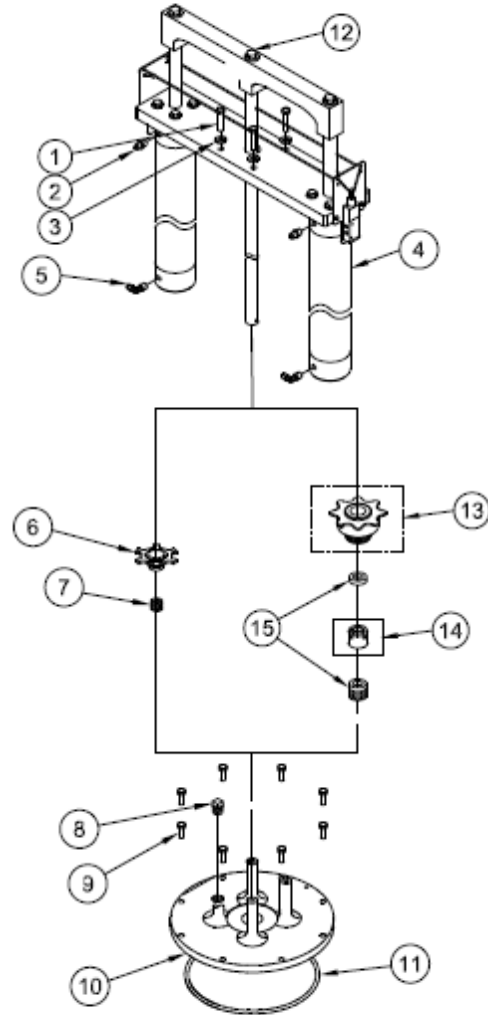
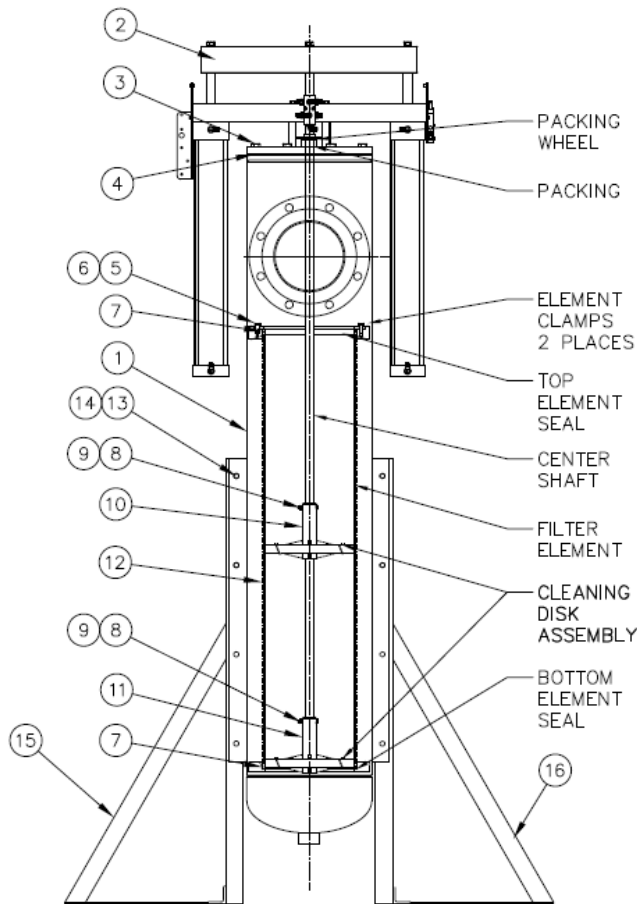

Figure 1
Figure 2
1. Disconnect all remote airlines running to the assembly, marking all airlines before removing. *Isolate all sources of energy before disconnecting any fitting.* Remove the center shaft connection bolt (Figure 1, item 12) and the four bolts (Figure 1, item 1) holding the twin assembly to the lid. Remove the twin assembly.
2. Hand tighten packing compression wheel (Figure 1, item 6 or 13) to prevent lid from moving on the shaft. Remove lid assembly with both upper and lower cleaning discs attached.
3. Remove the 8 bolts (Figure 1, item 9) from the lid. Inspect the lid O-ring for damage and replace if necessary (Figure 1, item 11)
5. Remove 1/4-20 hex nut and screw (Figure 2, item 8, 9) to dismantle upper and lower cleaning disc from actuator rod.
7. Inspect both cleaning disc (Figure 2, item 10, 11) for excessive wear. If replacement is required, refer to instructions included with replacement disc.
8. After complete inspection, and if necessary replacement, slide the cleaning disc on actuator rod and plug it with 1/4-20 screw and nut. First install the upper cleaning disc (Figure 2, item 10) and then lower cleaning disc. (Figure 2, item 11)
9. Remove the filter element (Figure 2, item 12) from the housing by removing two screws (Figure 2, item 6) of element hold down plates (Figure 2, item 5), and inspect the filter element for damage. Damage may consist of deformation, dents, holes or blockage.
11. Remove and inspect the element O-rings (Figure 2, item 7) for damage and replace as needed.
13. Re-install the element O-rings (Figure 2, item 7) and lower the element into the filter housing. When the element reaches the bottom, a small amount of force is needed to seat the element into the base.
15. Place the lid "O" ring (Figure 1, item 11) on the upper body flange, flat and centered.
16. Replace lid and cleaning disc assembly on the filter housing. Replace the lid bolt and tighten. (Figure 1, item 9)
18. Loosen the packing compression wheel (Figure 1, item 6 or 13) to proper operating specification.
- Inspection for leakage around the actuator shaft seal. To eliminate weeping, tighten that packing as necessary by tuning star wheel (Figure 1, item 6 or 13) clockwise. If the packing (Figure 1, item 7 or 15), has reach maximum adjustment and or leaking persists after adjustment disassemble the unit and replace the packing.
- Remove the actuator lid assembly and inspect the inside of the filter element. Inspect the inside of the filter element for excessive wear. The lid seal (Figure 1, item 11) should be replaced to maintain a proper seal. If the element is removed from the housing, the seals (Figure 2, item 7) should be replaced to maintain a proper seal. Over time, gaskets will take on a permanent "set".
- Inspect the actuator assembly. When the actuator begins to fail, the differential pressure will rise. This occurs because the actuator cannot sufficiently drive the cleaning disc assembly. Remove the actuator assembly and check for air leakage around the gland seal. Check for any side to side movement in the actuator shaft. If either of these problems exist, the actuator can be rebuilt (Figure 2, item 2) Inspect the actuator shaft for damage or excessive wear. If damage exists to the shaft, the actuator shaft must be replaced.